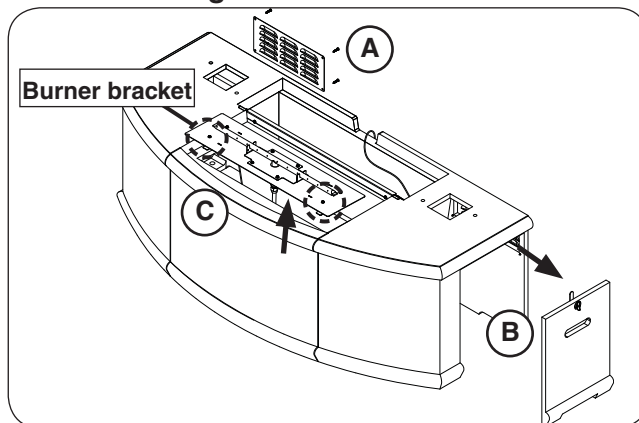

Fig. 19-2 Remove door, burner, and louver panel
2. Remove louver panel on the left side using a Phillips screwdriver (see Fig. 19-2, A). Store in a safe location.
3. Remove the storage door by first turning the door handle counter-clockwise, then carefully pulling the door outward (see Fig. 19-2, B). Store in a safe location.
4. Use a  $\frac{5}{16}$ " nut driver to partially unfasten the four screws found on the burner assembly. Then **carefully** remove the burner and store in a safe location. See Fig. 19-2, C.